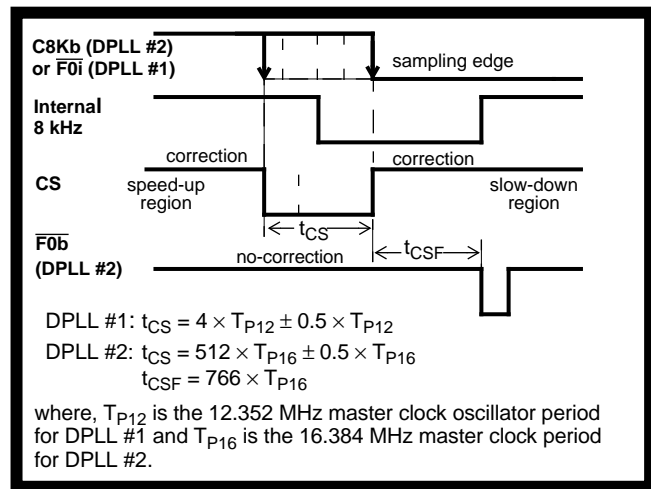
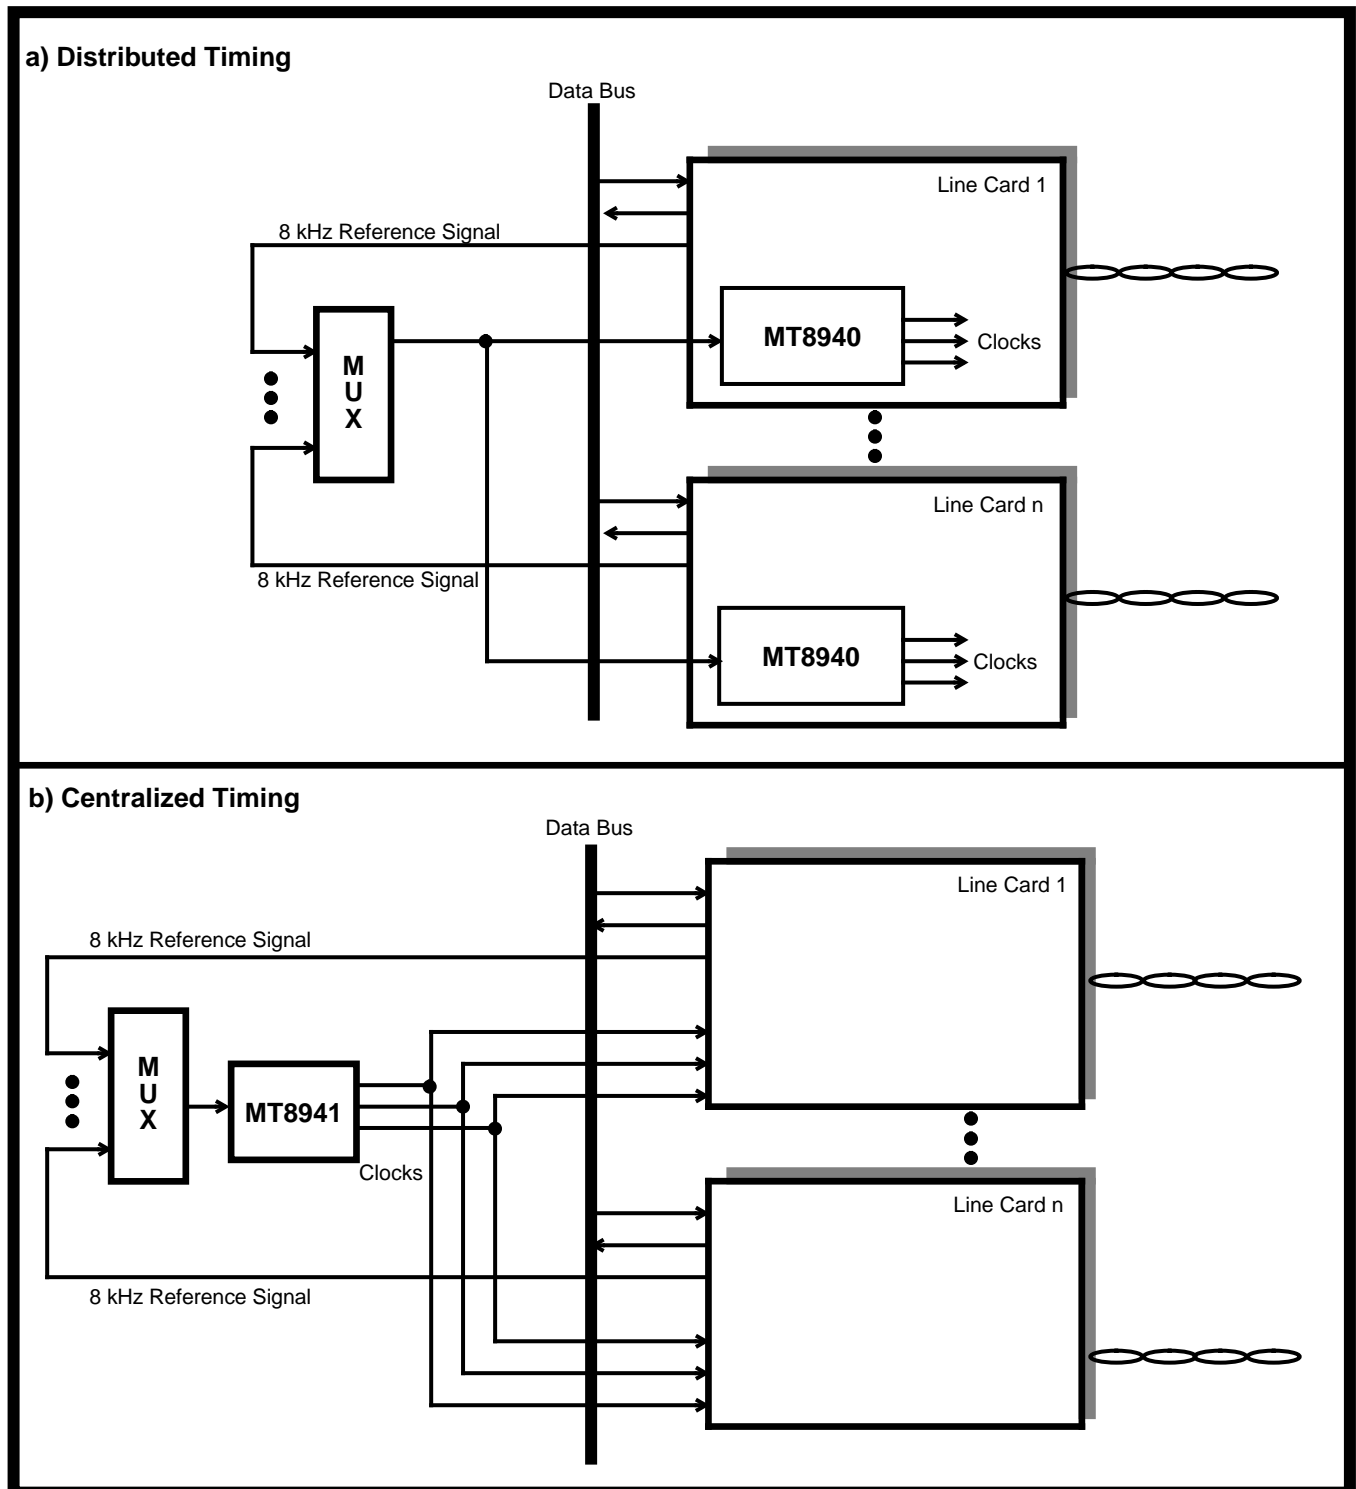

Figure 4 - Phase Comparison
Figure 8 - Application Differences between the MT8940 and MT8941
As shown in Figure 4, the falling edge of the 8 kHz input signal (C8Kb for DPLL #2 or F0i for DPLL #1) is used to sample the internally generated 8 kHz clock and the correction signal (CS) once in every frame (125 μs). If the sampled CS is "1", then the DPLL makes a speed-up or slow-down correction depending upon the sampled value of the internal 8 kHz signal. A sampled "0" or "1" causes the frequency correction circuit to respectively stretch or shrink the master clock by half a period at one instant in the frame. If the sampled CS is "0", then the DPLL makes no correction on the master clock input. Note that since the internal 8 kHz signal and the CS signal are derived from the master clock, a correction will cause both clocks to stretch or shrink simultaneously by an amount equal to half the period of the master clock.
The no-correction window size is 324 ns for DPLL #1 and 32 μs for DPLL #2. It is possible for the relative phase of the reference signal to swing inside the no-correction window depending on its jitter and the relative drift of the master clock. As a result, the phase relationship between the input signal and the output clocks (and frame pulse in case of DPLL #2) may vary up to a maximum of window size. This situation is illustrated in Figure 4. The maximum phase variation for DPLL #1 is 324 ns and for DPLL #2 it is 32μs. However, this phase difference can be absorbed by the input jitter buffer of Mitel's T1/CEPT devices.
2. The MT8941 includes a no-correction window to filter out low frequency jitter and wander as illustrated in Figure 4. Consequently, there is no constant phase relationship between reference signal $\overline{F0i}$ of DPLL # 1 or C8Kb of DPLL #2 and the output clocks of DPLL #1 or DPLL #2. Figure 4 shows the new phase relationship between C8Kb and the DPLL #2 output clocks. Figure 8 illustrates an application where the MT8941 cannot replace the MT8940 and suggests an alternative solution.